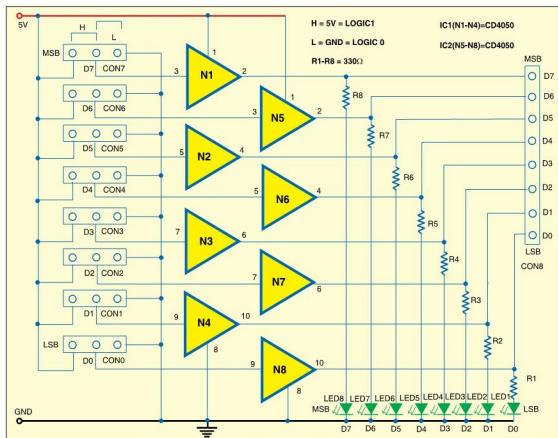

Fig. 1: 8-bit generator circuit
There are two circuits: 8-bit generator and 8-bit display. As shown in Fig. 1, the eight connectors (CON0 through CON7) are set to either logic high (1) or logic low (0) to generate the desired 8-bit stream. Middle terminals of these connectors are connected to the inputs